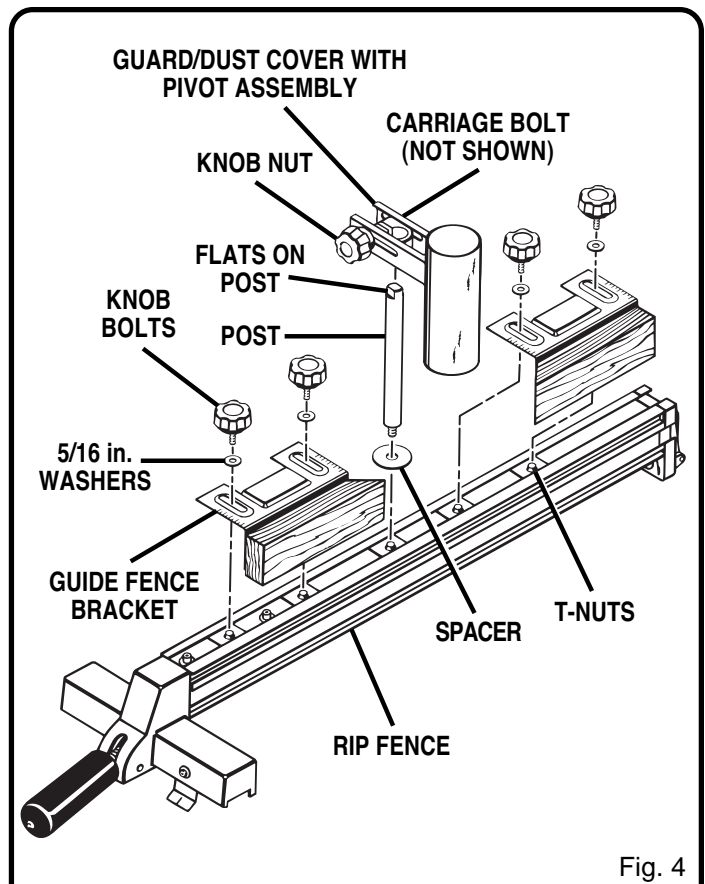

Fig. 4
- To install the guide fence brackets, align each bracket with two of the T-nuts on top of the rip fence. See Figure 4.
- Place the spacer on the threaded end of the post and thread the post into the remaining T-nut. See Figure 4.
- Place the guard/dust cover with pivot assembly on the post. See Figure 4.